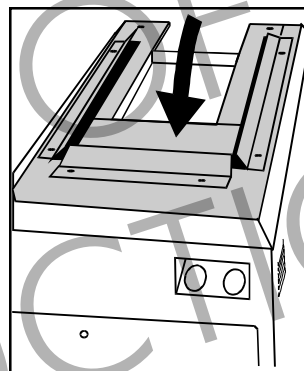

Figure 8.
8. Re-install the rainguard (see Figure 8).